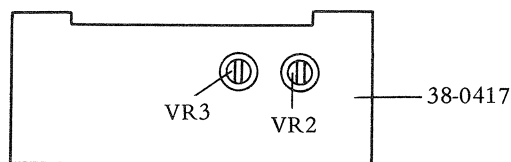

Fig. 21
2. Adjust the left/right rotational balance with VR2 (Fig. 21).